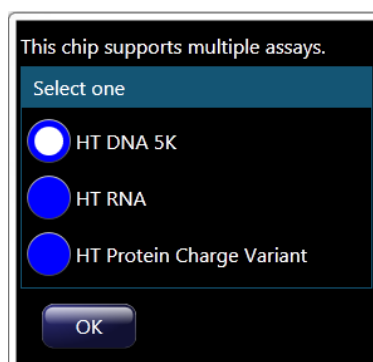
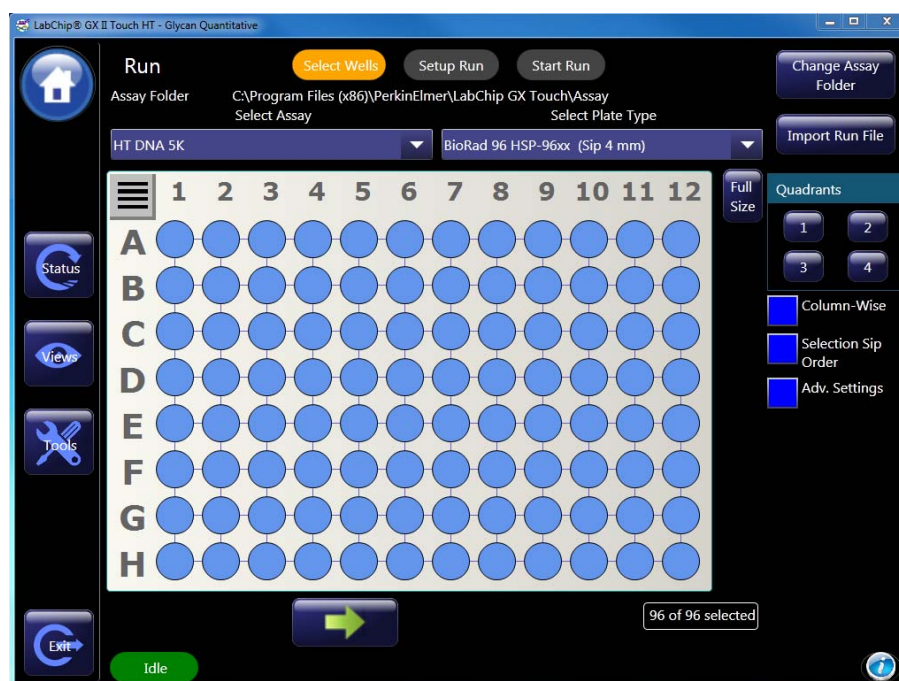

Figure 7. Assay Choice menu.
Figure 9. Selecting wells.
- 6 The *Assay Choice* window opens (Figure 7). Touch the desired assay and then touch OK.
- 2 Select the appropriate assay type (see Figure 7), plate name, well pattern, and whether to read wells in columns or rows. Select number of times each well is sampled under *Adv. Settings* (Figure 9). Touch the *green arrow* button.